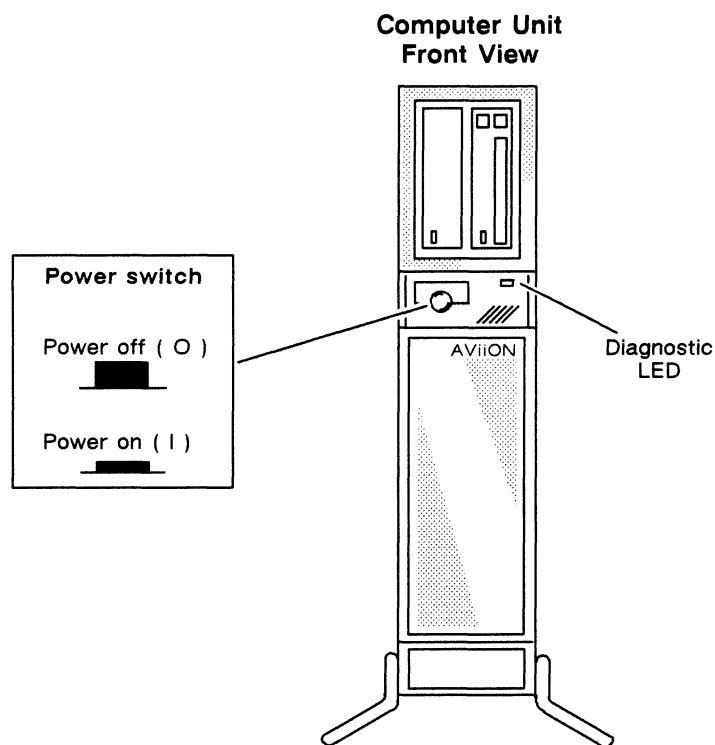

Figure 3-1 Computer Unit Power Switch and Diagnostic LED Indicator
3. Turn on power to the computer by pressing the computer unit power switch as shown in Figure 3-1. The power switch (*not* the diagnostic LED) lights up when power is on.